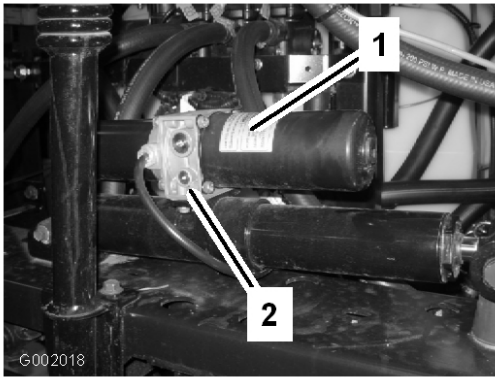

Figure 71
1. Locate the manual relief valve on the actuator for each boom. The manual relief valve is the smaller valve and is only on one side of the actuator body (Figure 71).